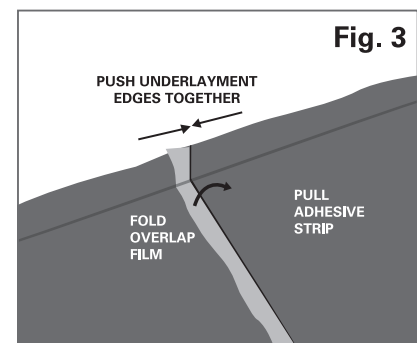

Fig. 3
4. Fold back the overlap flap to expose the peel-and-stick adhesive strip. Remove the white protective cover from the adhesive strip (see Fig. 3), and lay the overlap flap across the first row of underlayment. Press into place. Repeat row by row until the entire floor area is covered.